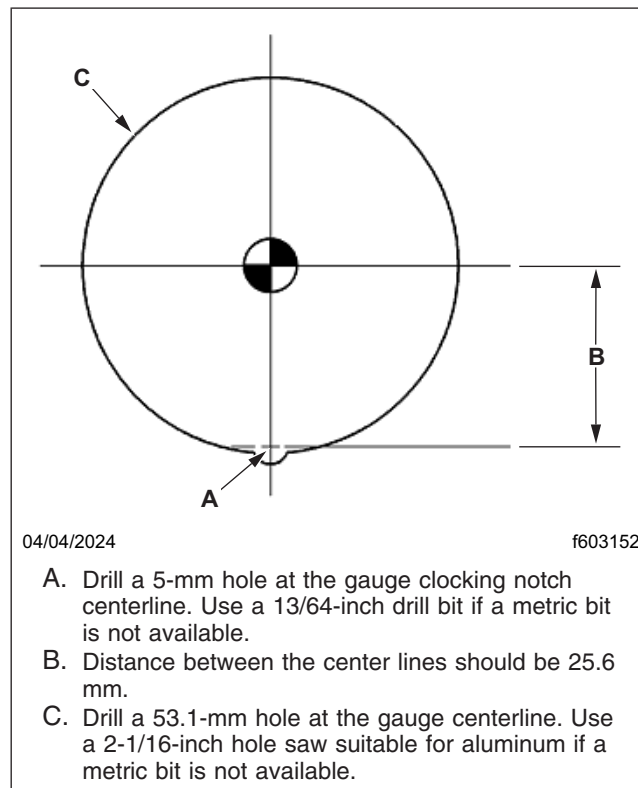

Fig. 15, Gauge Cutout Details
15. Drill out the holes for the gauge installation. See Fig. 15.